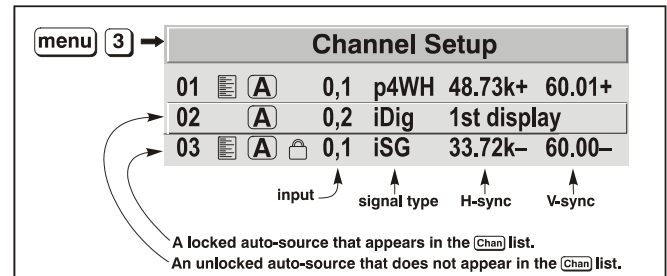

Figure 3.10. All Channels Appear in the Channel Setup Menu
► All available channels are listed in the *Channel Setup* menu (Figure 3.10), which describes how each channel can be accessed and which serves as the gateway for editing, copying and deleting channels.